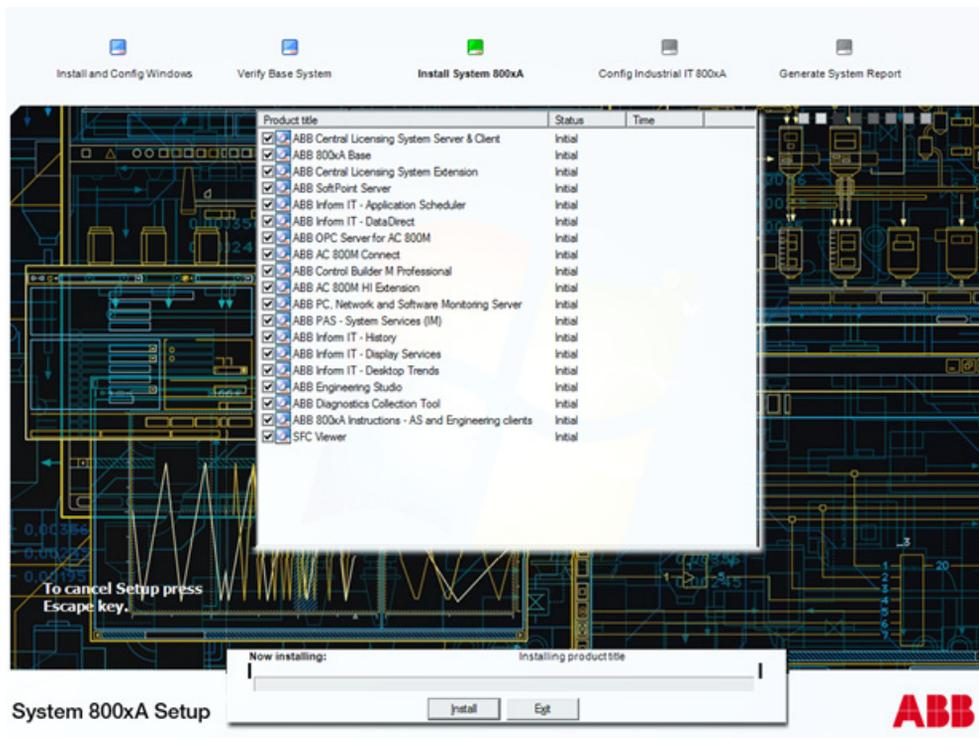

Figure 40. Installation Wizard Example
1. When the base system for a node is verified, the next part is to install the 800xA System software. The Installation Wizard (Figure 40) lists the products to be installed. Click **Install** to begin the installation. During the installation, the progress bar will indicate which application is being installed and the progress of the installation.